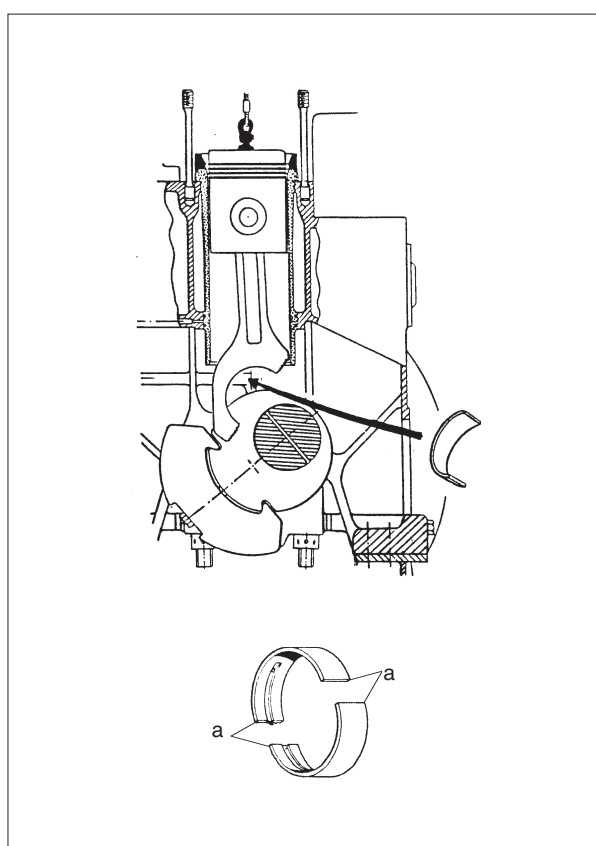

Fig. 2.
6) Lower the piston further down, lubricate the ends of the bearing shells (a in fig. 2) with copaslip, molycote pasta or similar and mount the upper shell of the big-end bearing.